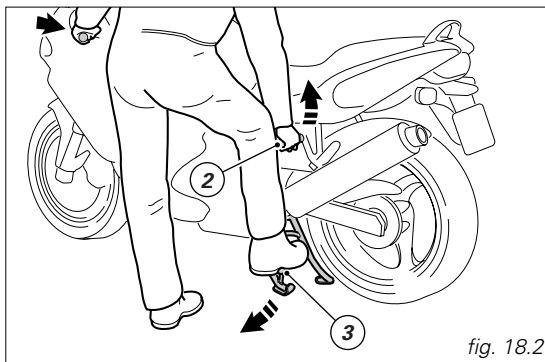

fig. 18.2
Hold the left handlebar with your left hand and the lifting handgrip (2, fig. 18.2) with your right hand. Push down on the thrust arm (3) of the centre stand until it touches the ground. At the same time, hold the handgrip and pull the motorcycle upward and backward.